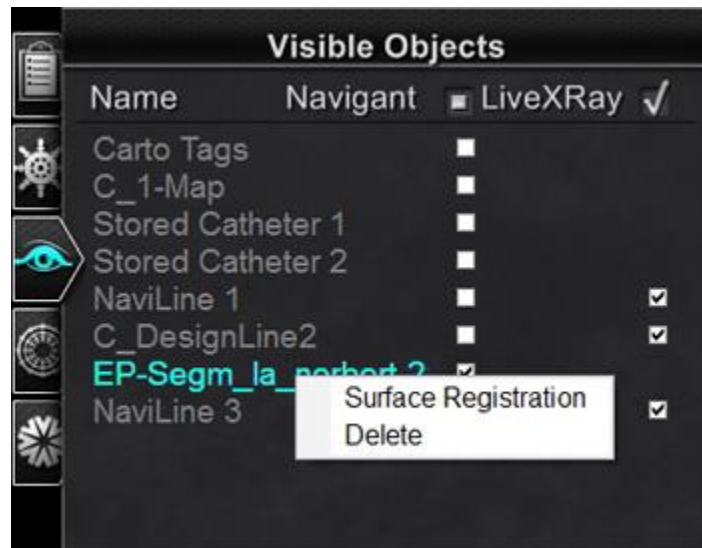

Figure 177. Accessing the Surface Registration dialog
2. Select **Surface Registration** from the popup menu (Figure 177).